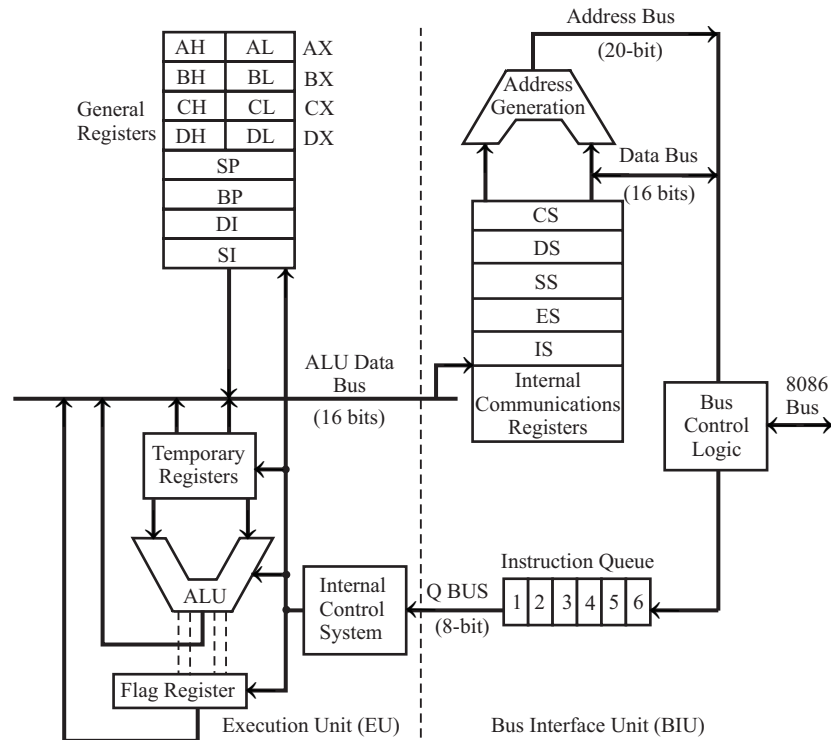

Fig. 1.14: Internal architecture of 8086.
The 8086 has a pipelined architecture. In pipelined architecture the processor will have a number of functional units and the execution time of the functional units are overlapped. Each functional unit works independently most of the time. The simplified block diagram of the internal architecture of an 8086 is shown in Fig. 1.14. The architecture of the 8086 can be internally divided into two separate functional units: **Bus Interface Unit (BIU)** and **Execution Unit (EU)**.